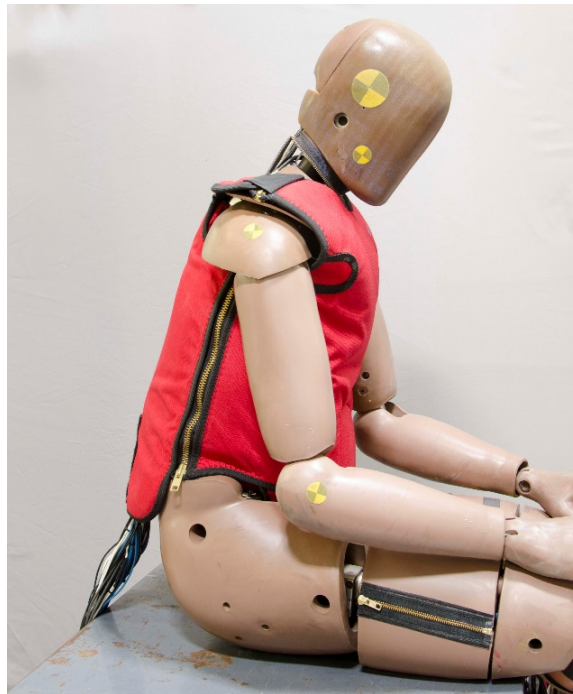

Figure 14-8. Zipper left and right sides of jacket
14.2.2.4 Zipper the left and right sides of the jacket (Figure 14-8).